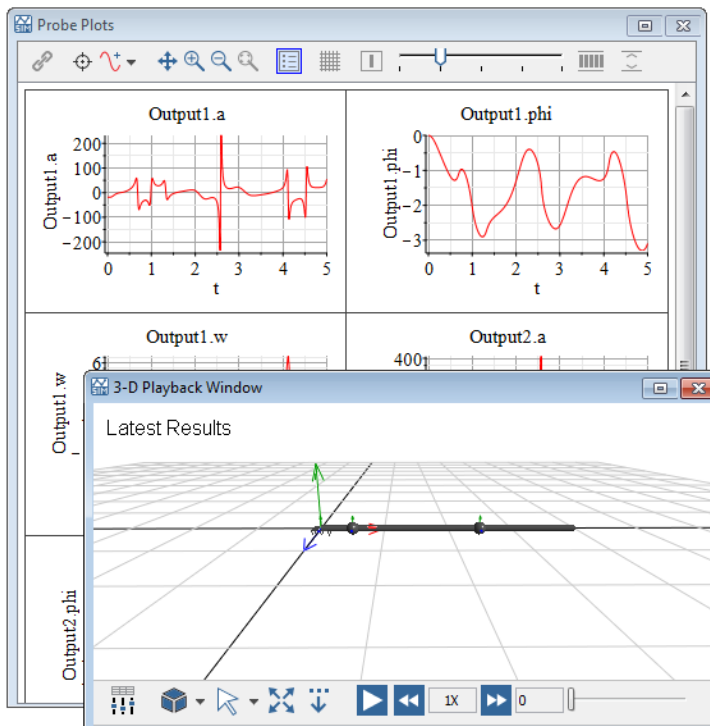

Figure 4.5: Simulation Graphs
3. Click **Show Simulation Results** (📊). The Analysis window opens with the Simulation Results tab selected. The 3-D Playback Window and the Probe Plots are in the Simulation Results tab. See **Figure 4.5**.